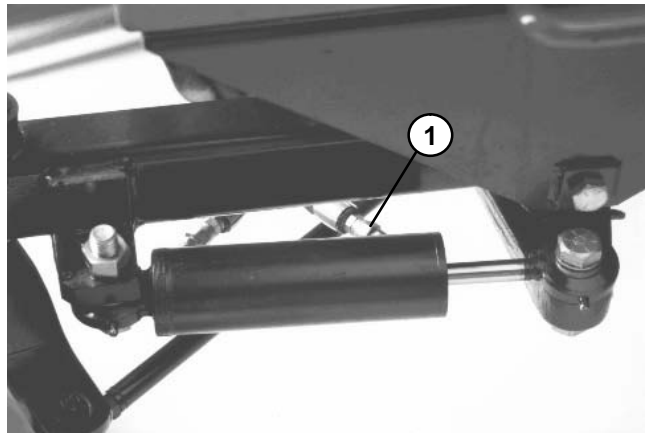

Figure 7
4. Disconnect the hydraulic hose from the fitting on the rod end of the cylinder (Fig. 7). Put a plug in the end of the hose to prevent contamination.